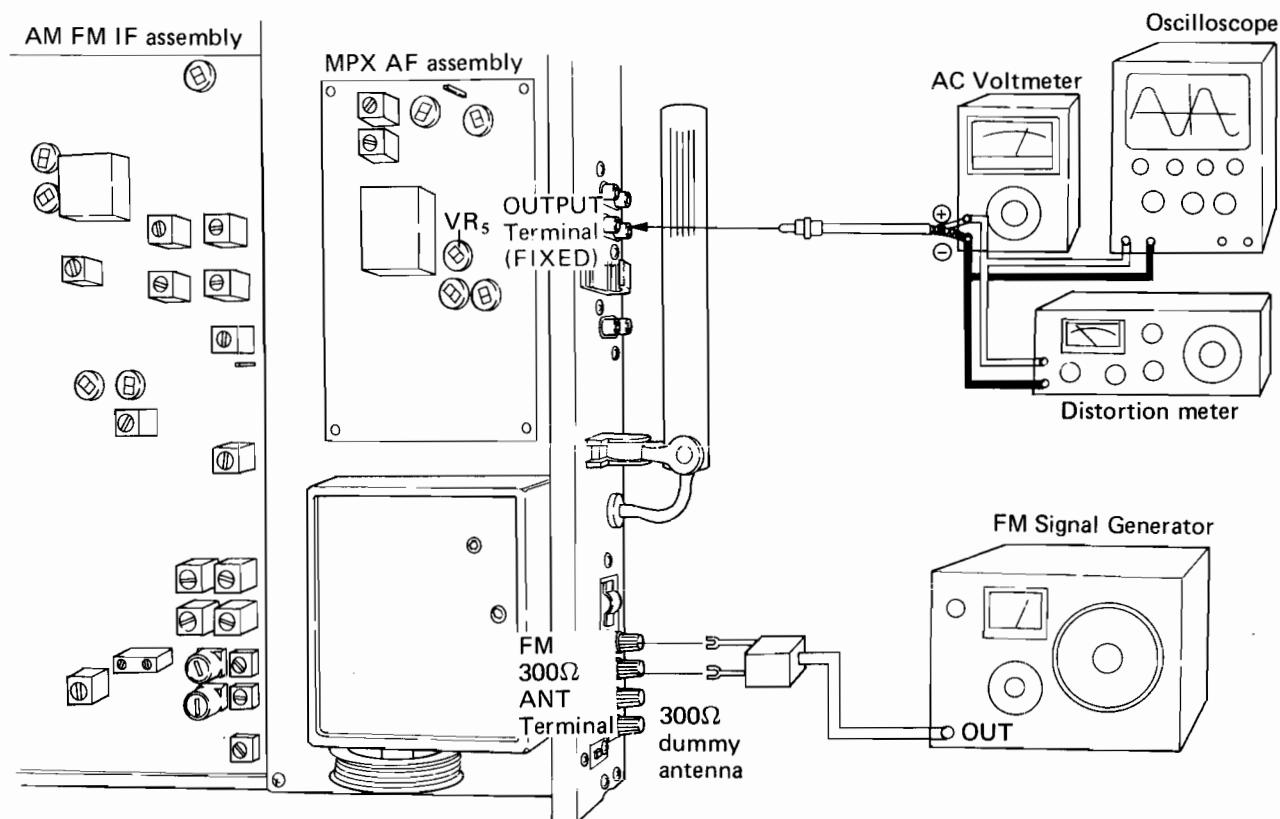

Fig. 19
1. Connect up the test instruments as shown in Fig. 19.